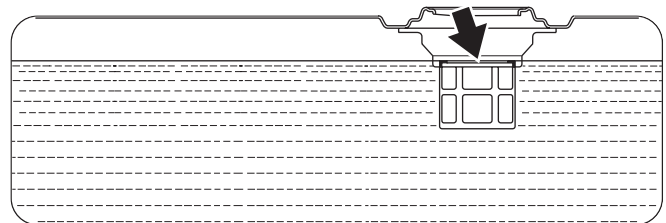

Figure 15 – Maximum Gasoline Fill Level
6. Slowly add gasoline into the fuel tank. Be very careful not to overfill the tank. The gasoline level should NOT be higher than the red level indicator inside the filler neck (see *Figure 15*).